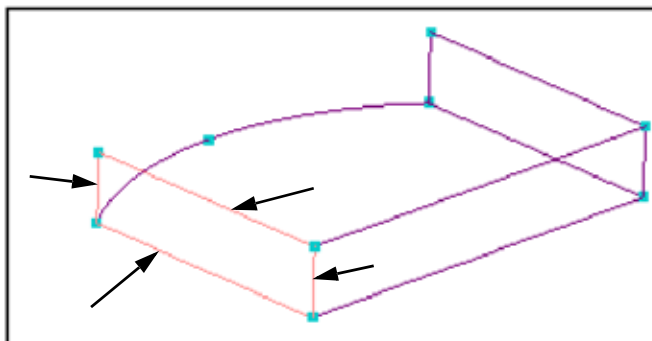

Figure 57: Selecting curves to define a region
3. Hold down the **Ctrl** key and **select** all four curves that form the boundary of the left side of the dust pan, as shown in Figure 57.